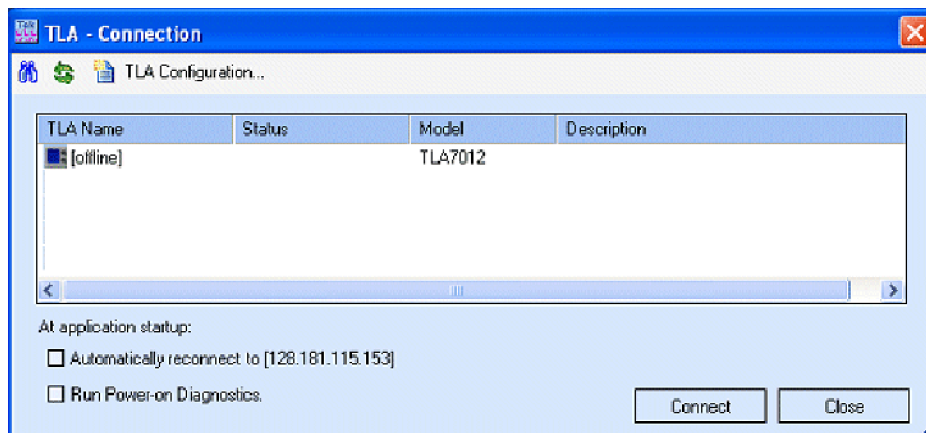

Figure 18: TLA Connection dialog box
8. Start the TLA application by double-clicking the TLA Application icon on the controller. The TLA Connection dialog box appears. (See Figure 18.)